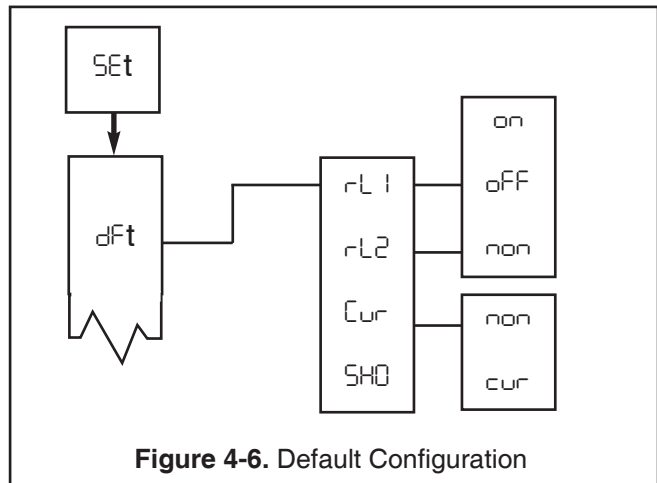

Figure 4-6. Default Configuration
4.6.1 Default Configuration (dFt). *dFt* Refer to Figure 4-6.